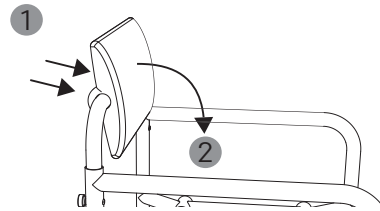

Fig. 6
5. To adjust the seat width so that it is right for you, proceed as follows: Loosen the knurled nuts on the rear of the backrest cushion (1, Fig. 6). Tilt the backrest cushion down towards the floor (2, Fig. 6).